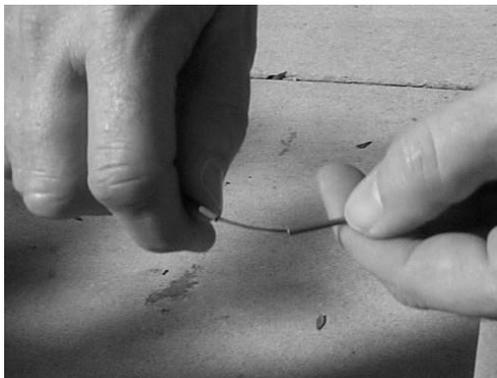

Figure 9 – Flex and snap the buffer tube at the score line.
4.10 Flex and snap the buffer tube at the score line (Figure 9). Remove the buffer tube to expose the fibers.